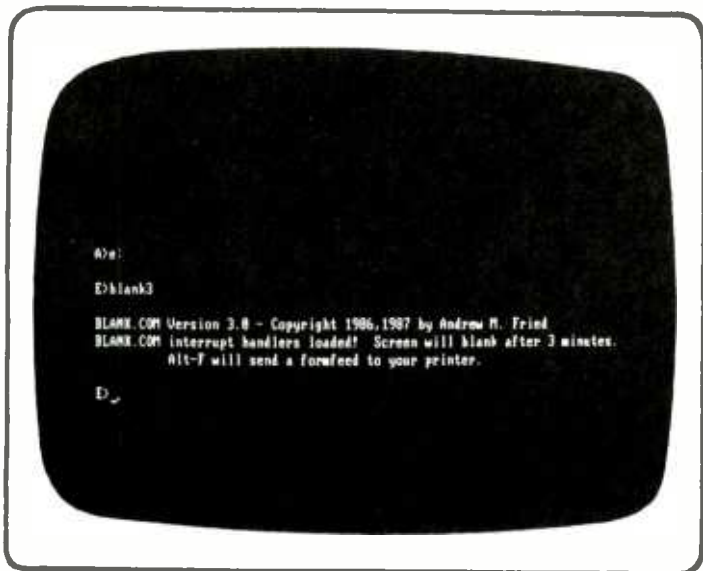

Fig. 7—The display tells the story. BLANK.COM darkens the screen in three minutes and can formfeed your printer.
**Fig. 7**—This diagram shows the position of the parts as viewed from the top of the board. Refer to the directions for circuit-board construction for the exact grid number for each lead.
**1.** Mount the IC sockets on the board (see Fig. 7). The first socket is mounted so that pin 1 is in hole F-8. The second socket is turned around so that pin 1 is on the other half of the board in hole E-17.
Another outstanding freebie utility came with a disk supplied with the premier issue of *Computer Shopper's PC-Clone Magazine*. This one resolved something that's been a pain in the tractor-feed since I got my first printer back in '79. The utility, called BLANK3.COM, has two separate functions, which are shown on the screen when the program initializes (Fig. 7). Firstly (and this seems to have been its original purpose) it blanks the screen if a key has not been depressed for three minutes. The display returns the instant any key is touched.